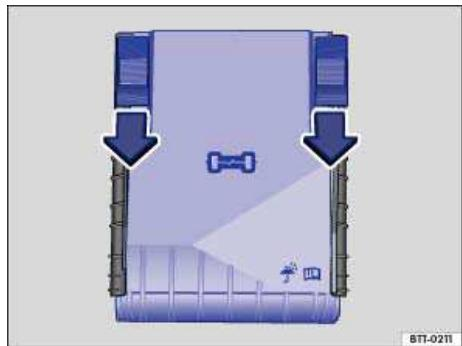

Fig. 201 In the engine compartment: Fuse box cover.
- Move the release tabs in the direction of the arrows to unlock the fuse box cover =>fig. 201.